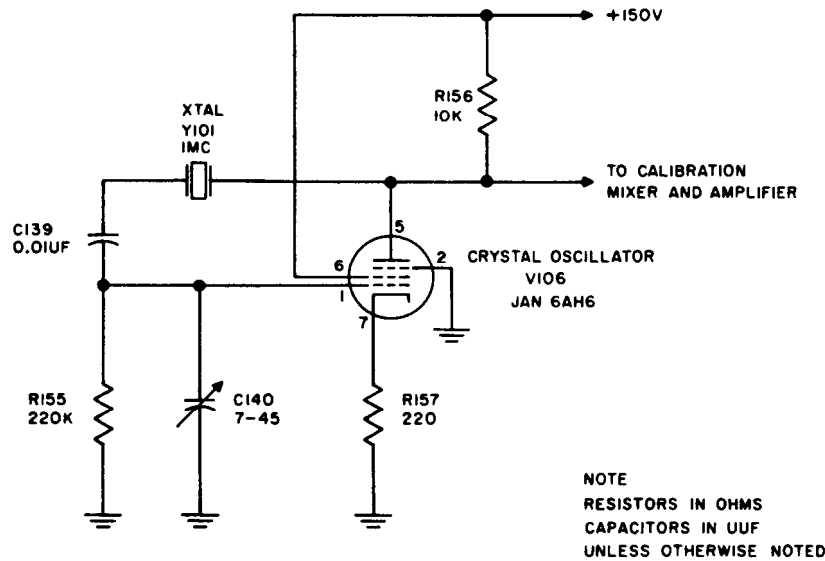

Figure 2-10. Crystal Oscillator Simplified Schematic
8. CRYSTAL OSCILLATOR. (See figure 2-10.)